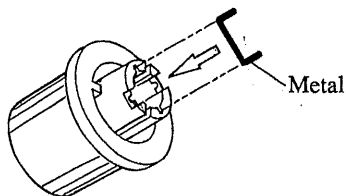

Fig. 2-13 Metal Fitting inside the Bushing
- If you intend to re-install the knob, keep it in a safe place. There is a metal fitting inside the knob's bushing that engages with the axis of a potentiometer (see Fig. 2-13). Even when you remove a knob, this metal fitting does not usually come off the knob. However, if it does come off, place it inside the knob's bushing.